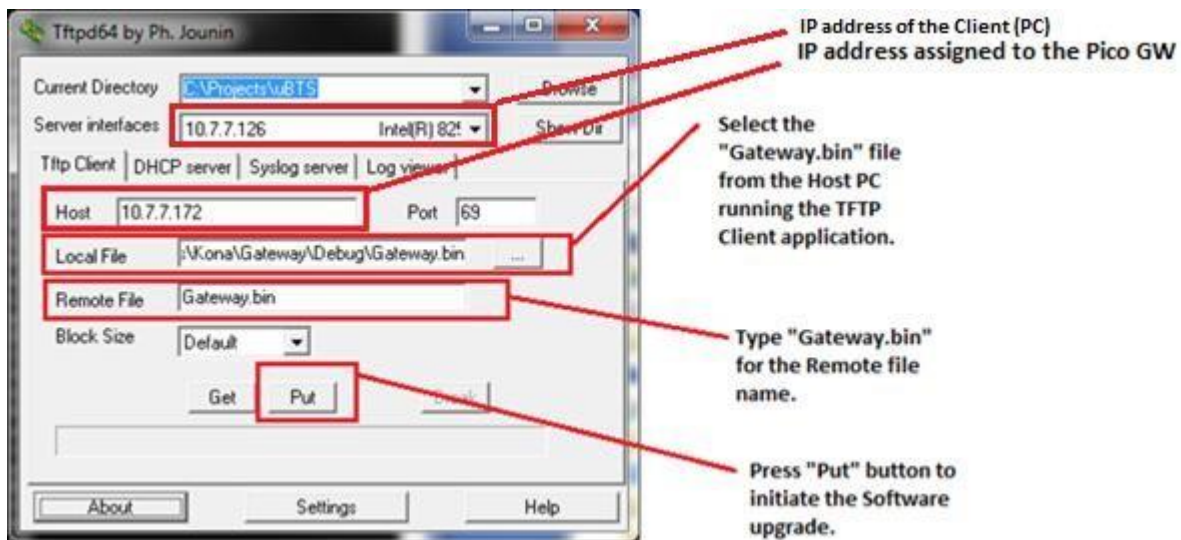

Figure 1 TFTP client settings
2. Use any TFTP client to PUT the Gateway.bin (or semtech-vx.xx.bin) file to the gateway as shown in Figure 1